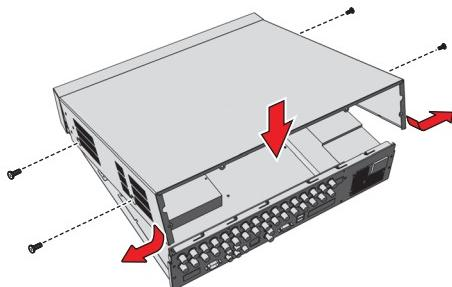

Figure 11. Replacing the Chassis Cover
1. Replace the chassis cover using the screws you removed (refer to Figure 11).